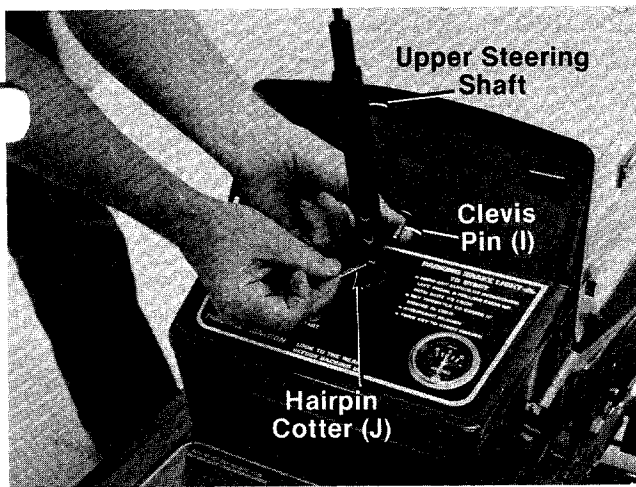

FIGURE 12.
1. For shipping purposes, the upper steering shaft is pushed all the way down over the lower steering shaft. Pull the upper steering shaft up. The three holes in the shaft provide three steering wheel heights. Select desired hole and secure with clevis pin (I) and hairpin cotter (J). See figure 12.